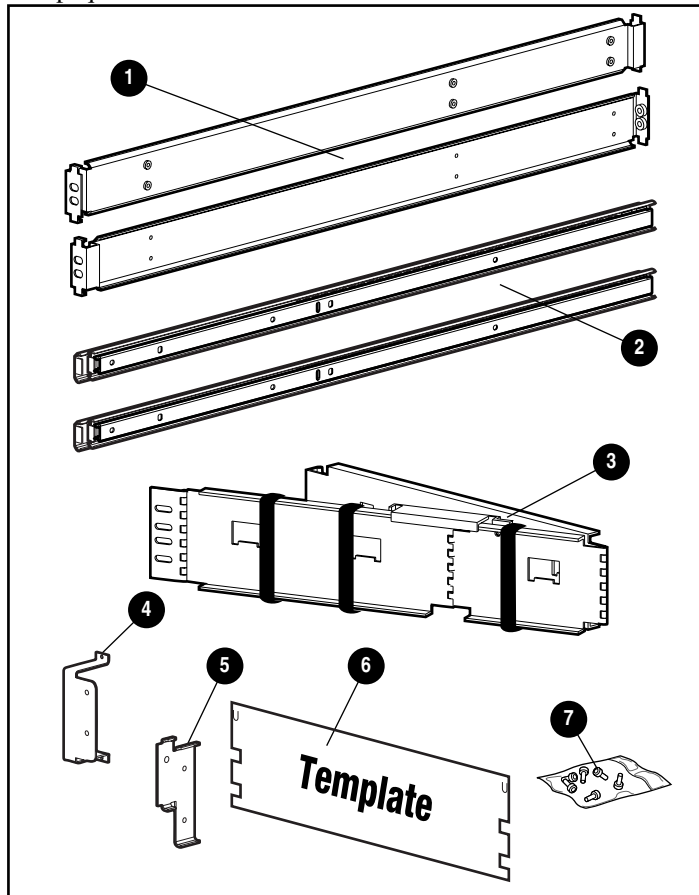

Figure 2-2. Rack mounting hardware
- Rack mounting hardware (numbers reference Figure 2-2)
- ❶ Rack Mounting Brackets (2)
- ❷ Slide Rail Assembly (2)
- ❸ Cable Management Arm
- ❹ Cable Management Arm Server Bracket
- ❺ Cable Management Arm Rack Bracket
- ❻ Template that can be used to mark the rack for proper attachment of the rack mounting brackets
- ❼ Bag of screws